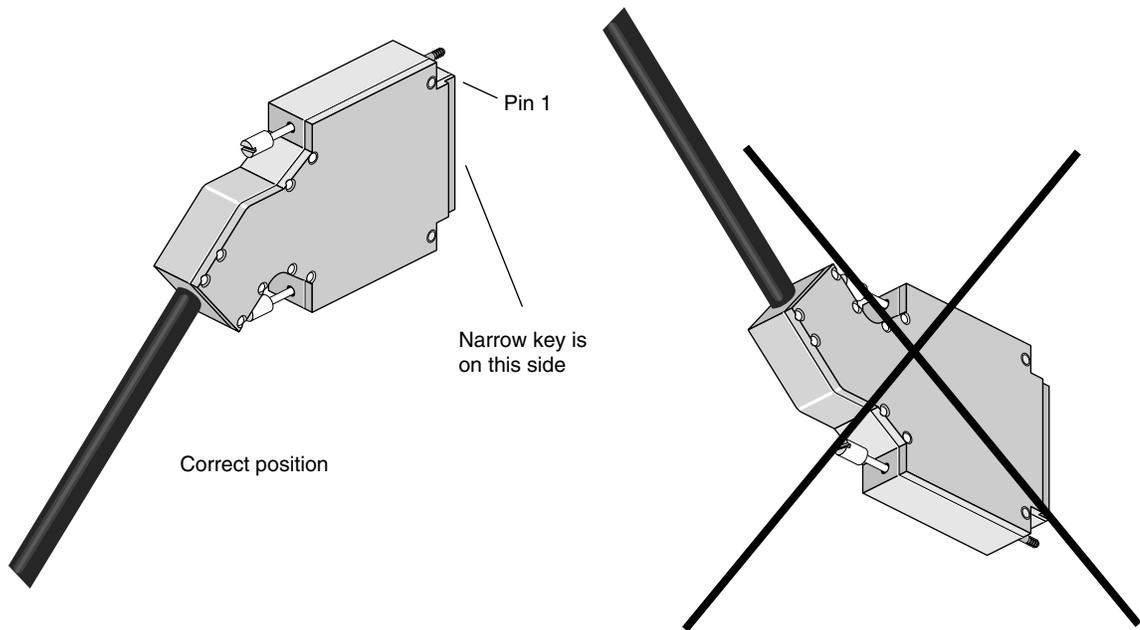
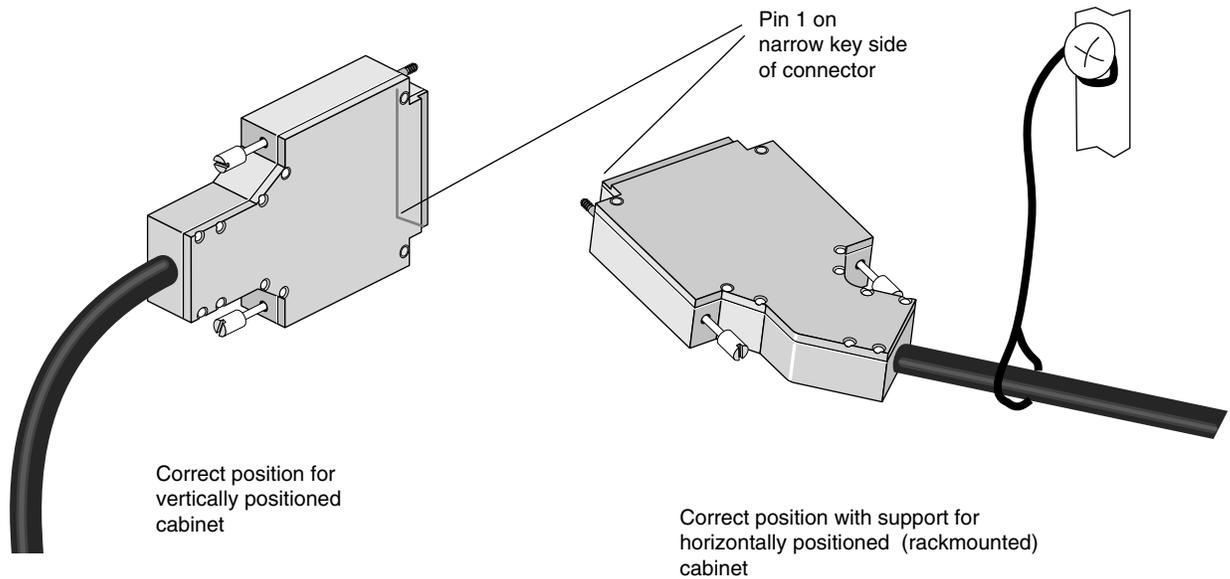

Figure 2-4 GSN Cable Connector for Origin 2000 and Onyx2 Modules
Figure 2-5 GSN Cable Connectors for Origin 200 Gigachannel Expansion Cabinet
- Some GSN cable connectors are designed with an angle to relieve strain. This style of connector must face downward (as illustrated in Figure 2-4) or sideways (as illustrated in Figure 2-5). If proper alignment of the key results in the cable facing upward, you need to locate a GSN cable with a different angle built into its connector.